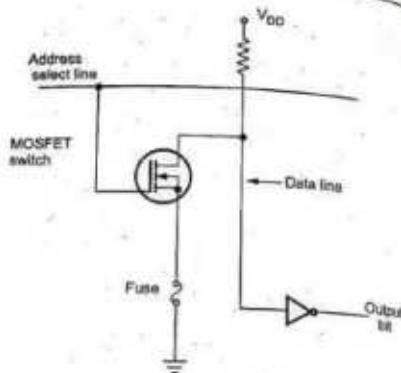

Fig. 7.5.2 Single fused PROM cell
- PROMs are programmed by user. To provide the programming facility, each address select and data line intersection has its own fused MOSFET or transistor. When the fuse is intact, the memory cell is configured as a logic 1 and when fuse is blown (open circuit), the memory cell is logical 0. Logical 0s are programmed by selecting the appropriate select line and then driving the vertical data line with a pulse of high current. The Fig. 7.5.2 shows a PROM fused MOSFET memory cell.